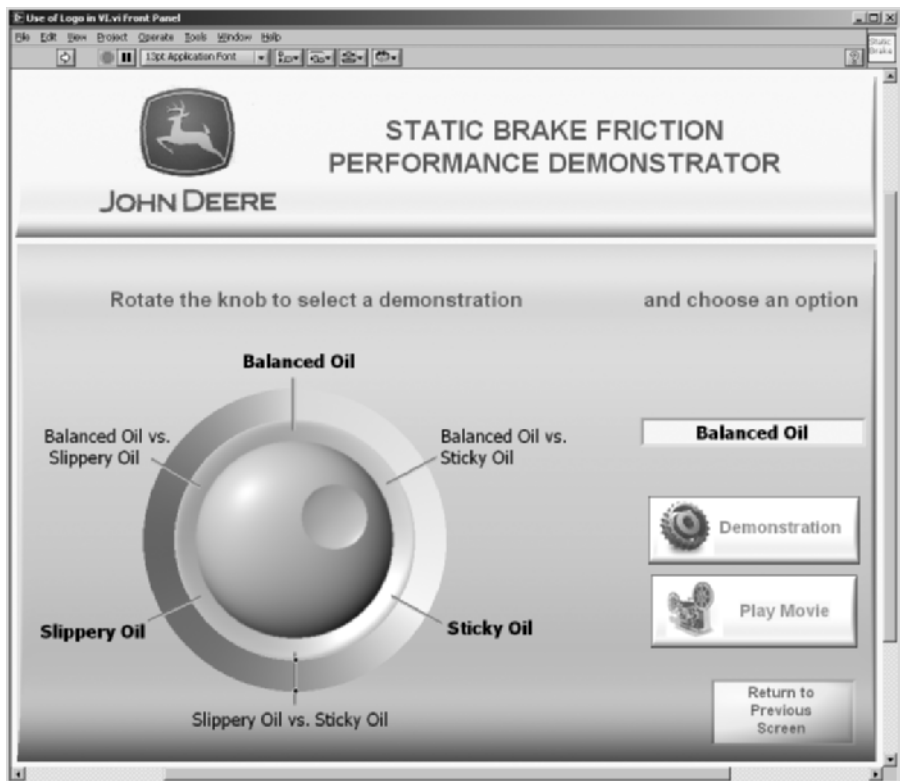

Figure 17.24
- If you have empty space, consider filling it up with a decoration “module” as something you could use later; or fill it up with your company’s logo or some cool picture. “Consider” it but don’t cram the panel with meaningless stuff; some “white space” is good. (For example, there’s a lot of judicious white space in the VI front panel shown in Figure 17.24.)